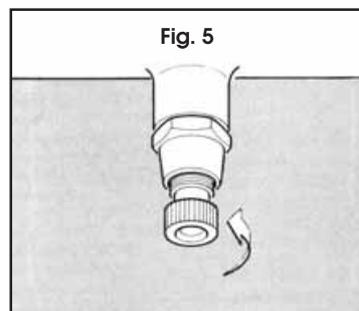

Fig. 5
2. Drain any condensate that may have accumulated in the receiver by unscrewing the drain plug underneath the air receiver (fig. 5).